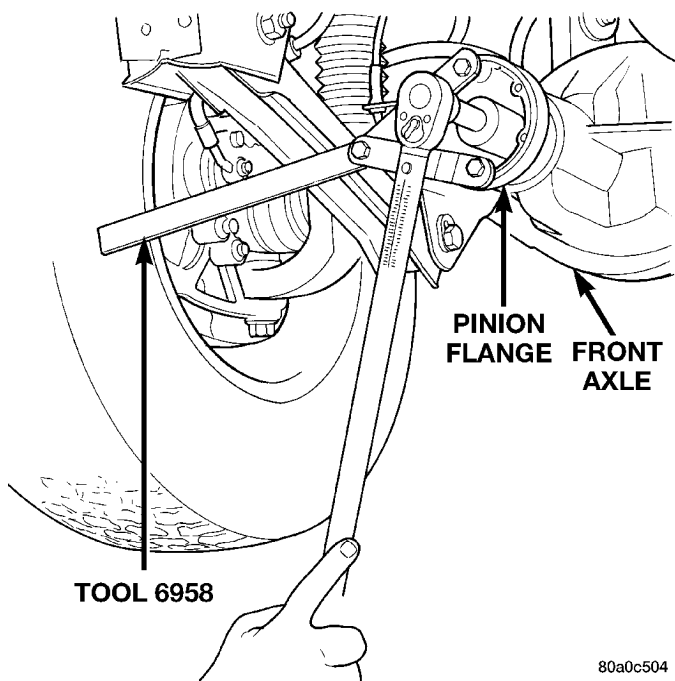

Fig. 53 Tightening Pinion Nut
(10) Using Holder 6958, a short length of 1 in. pipe, and torque wrench (set at 352 N·m (260 ft. lbs.)), crush collapsible spacer until bearing end play is taken up (Fig. 53).